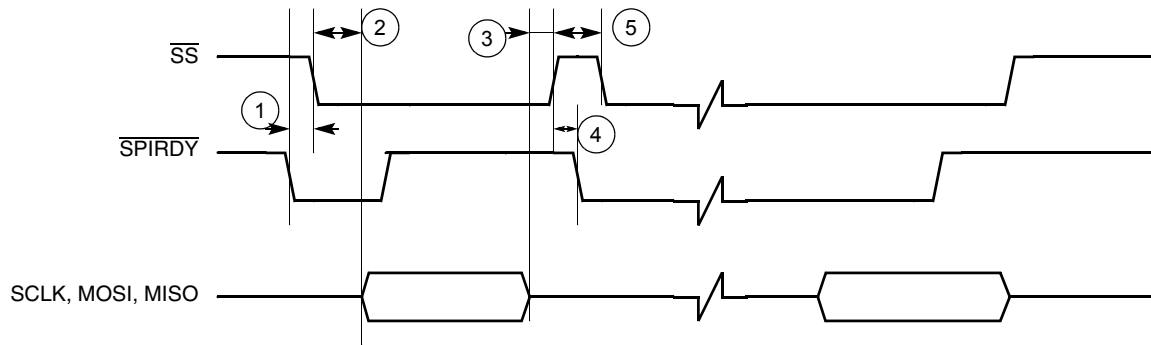
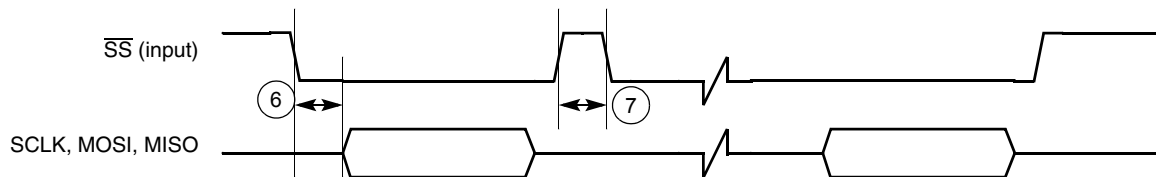

**Figure 39. Master SPI Timing Diagram Using  $\overline{\text{SPI\_RDY}}$  Edge Trigger**
**Figure 43. Slave SPI Timing Diagram FIFO Advanced by  $\overline{\text{SS}}$  Rising Edge**
To use the internal transmit (TX) and receive (RX) data FIFOs when the SPI 1 module is configured as a master, two control signals are used for data transfer rate control: the  $\overline{SS}$  signal (output) and the  $SPI\_RDY$  signal (input). The SPI1 Sample Period Control Register (PERIODREG1) and the SPI2 Sample Period Control Register (PERIODREG2) can also be programmed to a fixed data transfer rate for either SPI 1 or SPI 2. When the SPI 1 module is configured as a slave, the user can configure the SPI1 Control Register (CONTROLREG1) to match the external SPI master's timing. In this configuration,  $\overline{SS}$  becomes an input signal, and is used to latch data into or load data out to the internal data shift registers, as well as to increment the data FIFO. Figure 39 through Figure 43 show the timing relationship of the master SPI using different triggering mechanisms.
Table 24. Timing Parameter Table for Figure 39 through Figure 43